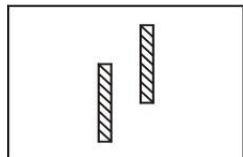

Fig.55
(2) Vertical Phoria
Turn auxiliary lens knob ② to set the left eye at $10\Delta I$ so that letter columns are completely separated. If the patient has vertical phoria, it will be shown as Fig.55. Then turn the rotary prism to the other eye, with scale of 0 horizontal (as shown in Fig.57). Turn prism rotation knob ⑪ so that there is no difference between the upper and the lower (see Fig.56). Then scale of rotary prism indicates vertical phoria power.